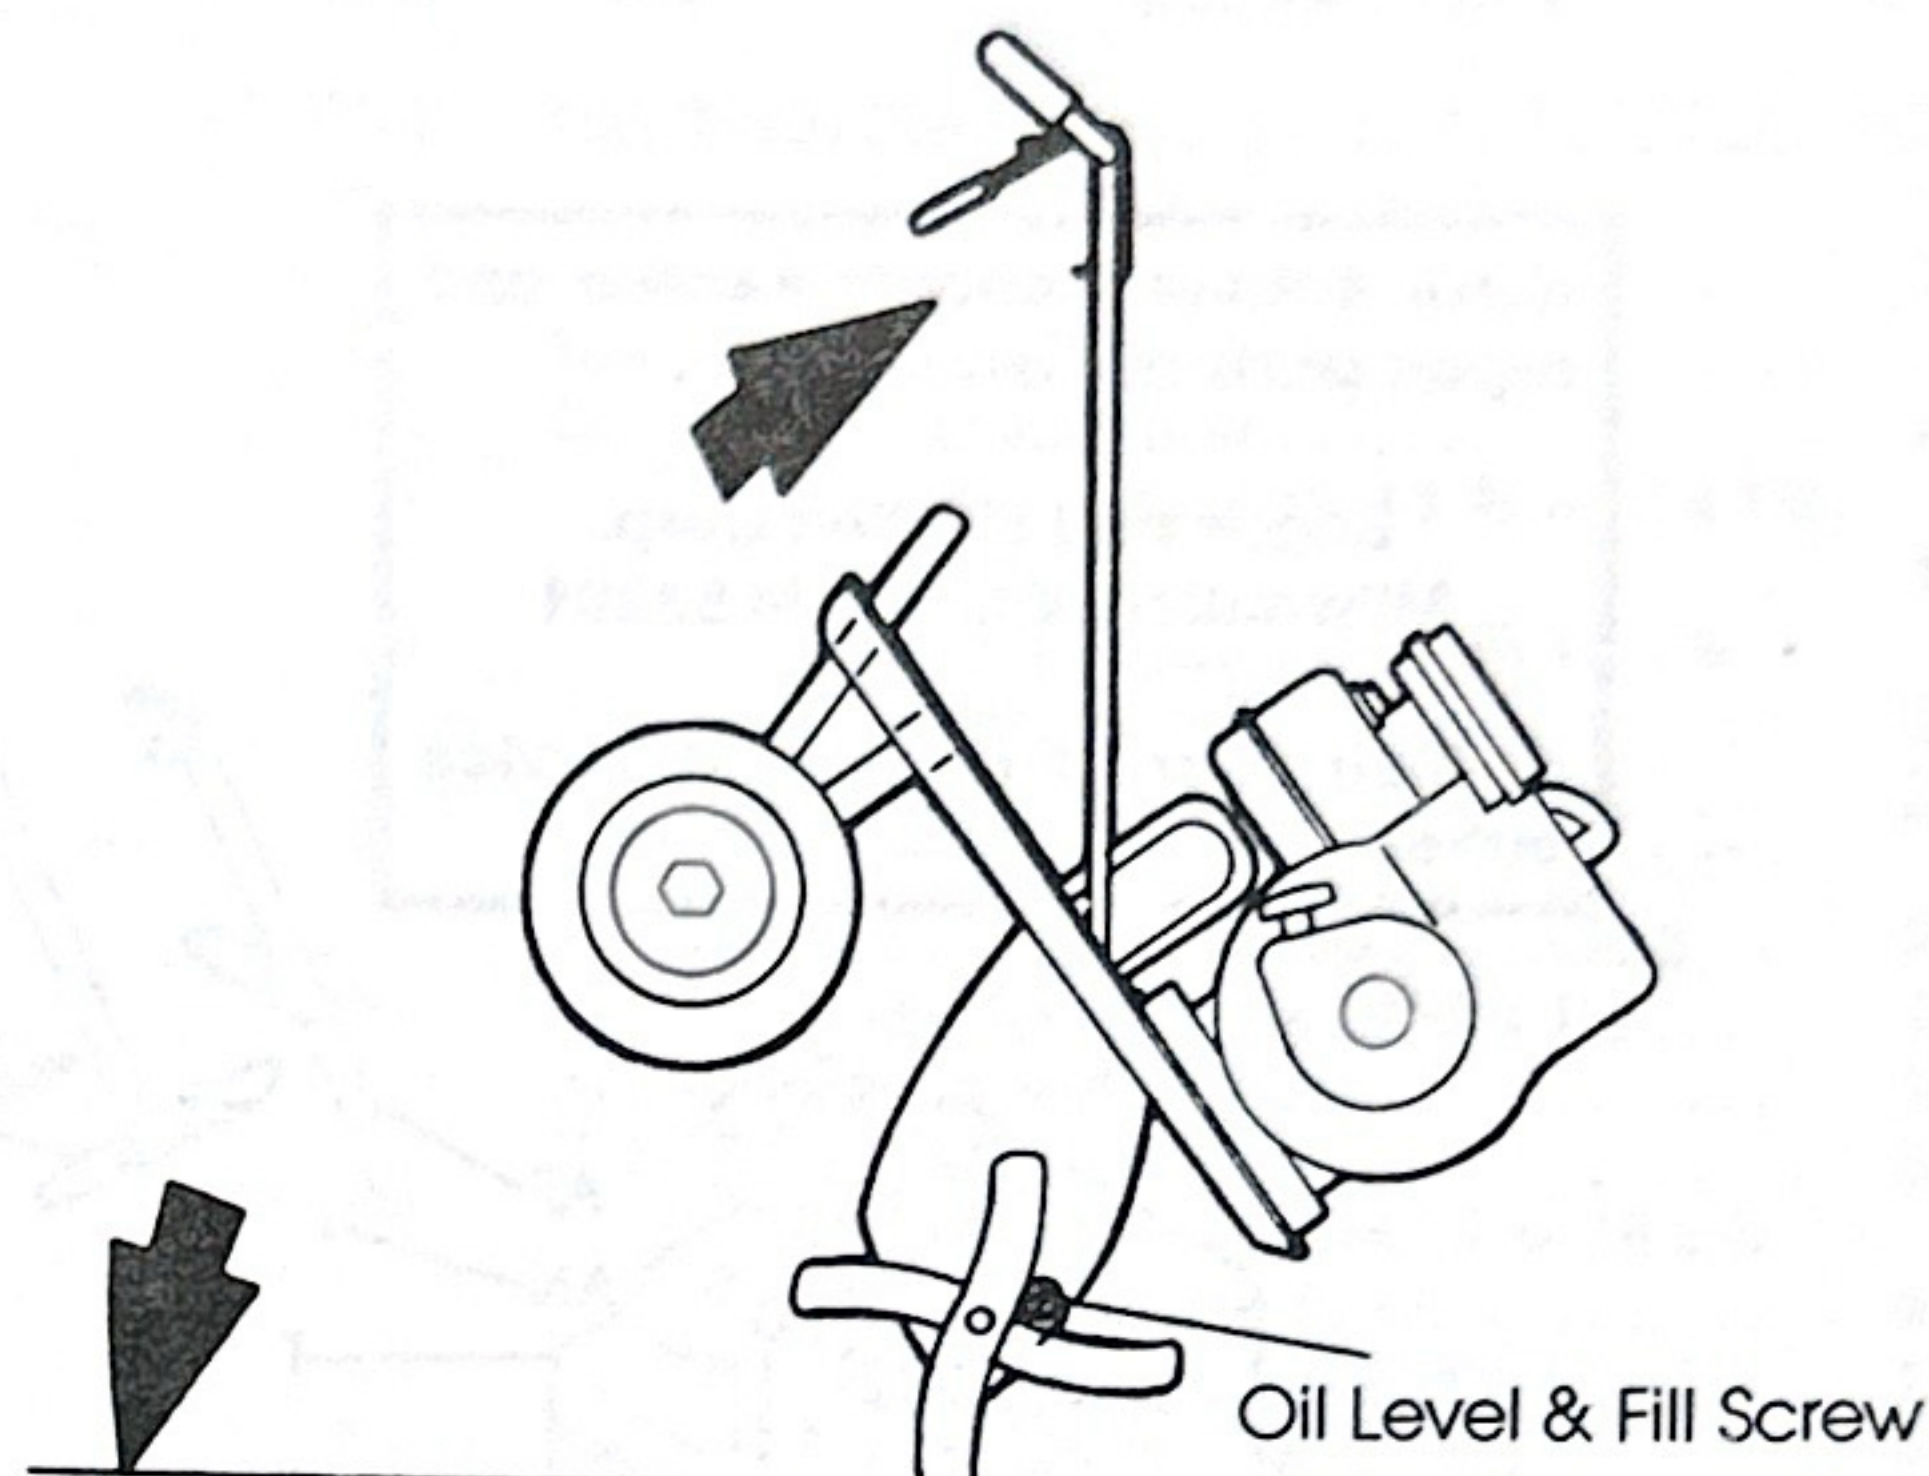

FIG. 17
4. **Chain Case** — To check the oil level of the tiller chain case raise handle until it is approximately straight up and down. Wipe dirt from around oil fill screw and remove, Fig. 17. Oil should be level with the bottom of the oil fill screw hole in this